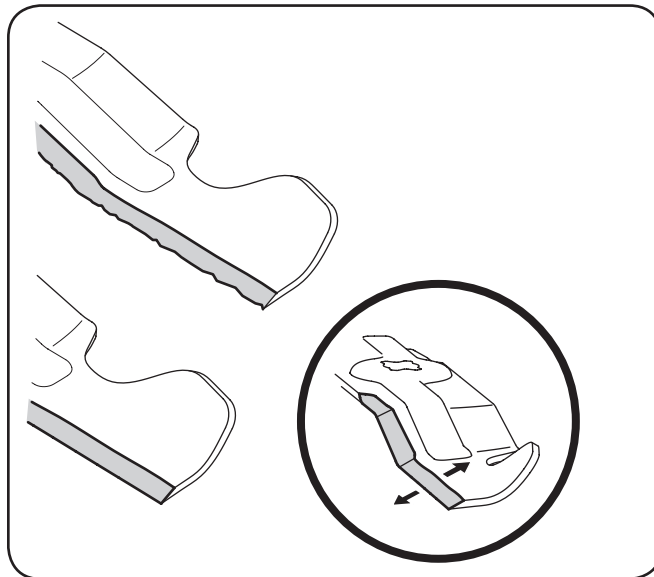

Figure 7-6
4. To properly sharpen the cutting blades, remove equal amounts of metal from both ends of the blades along the cutting edges, parallel to the trailing edge, at a 25°- to 30° angle. Always grind each cutting blade edge equally to maintain proper blade balance. See Fig. 7-6.